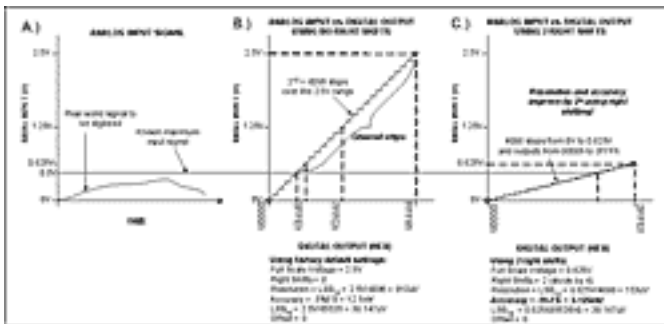

Figure 2. Right-shifting comparison. (click for larger image)
**Figure 2** is an excellent example of how to make good use of internal calibration and right shifting. The first plot, A, shows the example signal to be monitored. The maximum voltage applied to the MON input is 0.5V. Plot B shows the factory-calibrated transfer function, and plot C shows the transfer function using two right shifts and a full-scale voltage set to 0.625V (2.5V/4). With a full-scale voltage of 0.625V, more of the digital codes will be used compared to using a full-scale voltage of 2.5V. The resulting conversions will be four times larger than the 2.5V full-scale voltage. However, by using the right shifting function, those conversions are divided back down by a factor of four (two right shifts).
As all three plots in Figure 2 show, the same y-axis can be used as a point of comparison. The horizontal line drawn through all three plots represents the maximum-input voltage level to be applied to this pin. By comparing plots B and C, the benefit of right shifting can be seen. Plot B shows how much of the digital output range is wasted by not using internal calibration and right shifting. Plot C shows how internal calibration and right shifting can be used to regain that lost range and increase signal accuracy.